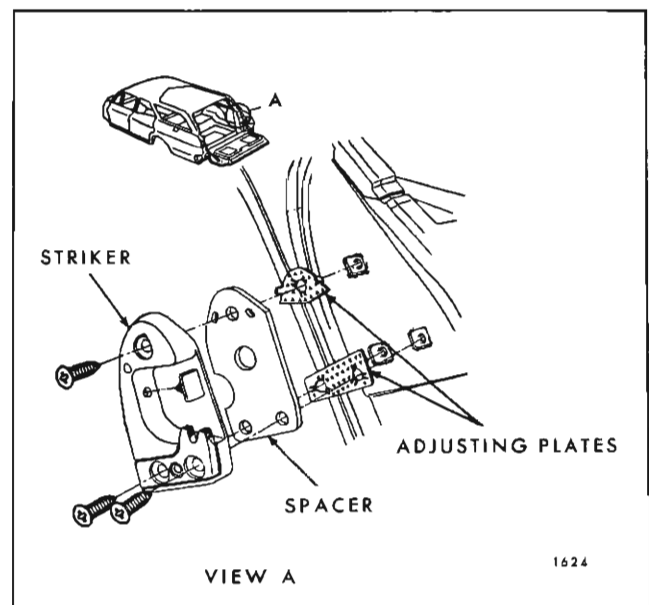

Fig. 1F30—Tail Gate Lock Striker Assembly
3. To install tail gate lock striker, place striker and adjusting plates within marks on body pillar and install striker attaching screws (see Fig. 1F30).